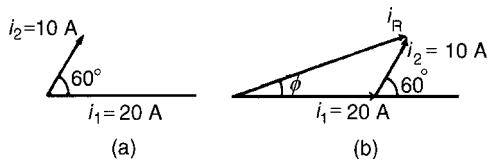

Figure 14.12
- (a) The relative positions of i_1 and i_2 at time $t = 0$ are shown as phasors in Fig. 14.12(a). The phasor diagram in Fig. 14.12(b) shows the resultant i_R , and i_R is measured as 26 A and angle ϕ as 19° or 0.33 rads leading i_1 .
- (b) From Fig. 14.12(b), by the cosine rule: